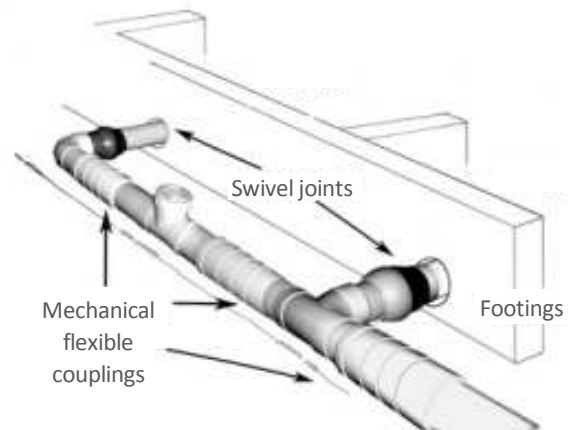

FIGURE 7
- In sites with highly or extremely reactive soil, AS 2870 – *Residential slabs and footings* requires mechanical flexible couplings for sub-surface drainage pipes and for above-ground connections from the downpipe to the stormwater and sewerage drains (Figure 7). These allow for the movement of the soil and minimise the risk of pipe joints breaking and leaking.